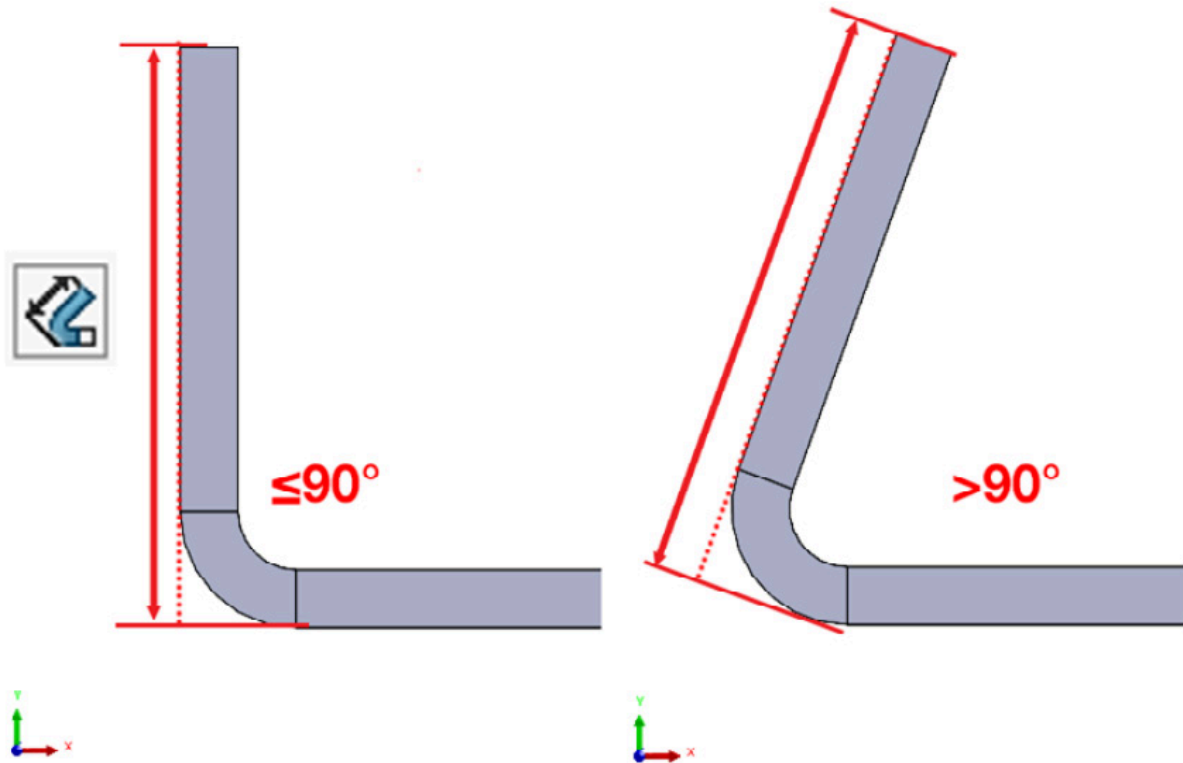

Figure 2.8: Tangent Bend examples for a 90° bend and for a bend over 90°
- **Tangent Bend:** This option measures the Flange Length from a point that is at a tangent to the outside of the bend (*Figure 2.8*). This option is only valid when the bend values are larger than  $90^\circ$ . Otherwise, by definition, the length will be the same as the **Outer Virtual Sharp**.